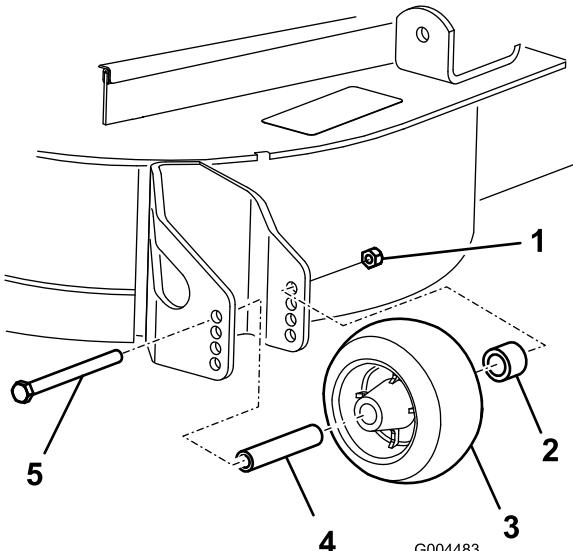

Figure 23
3. After adjusting the height-of-cut, adjust the rollers by removing the flange nut, bushing, spacer, and bolt (Figure 23).
5. Install the flange nut bushing, spacer, and bolt. Torque to 40-45 ft-lb (54-61 N·m) (Figure 23).